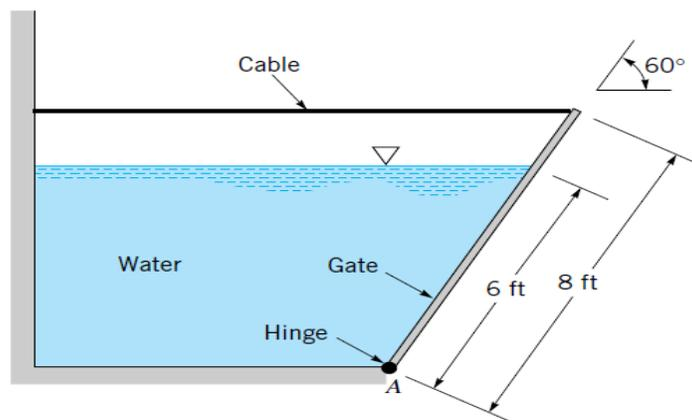

Fig.9
9. A homogeneous, 4-ft-wide, 8-ft-long rectangular gate weighing 800 lb is held in place by a horizontal flexible cable as shown in Fig.9. Water acts against the gate which is hinged at point A. Friction in the hinge is negligible. Determine the tension in the cable.